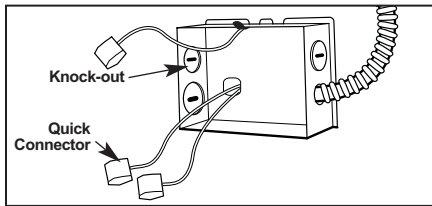

Figure 8
**Step 2.** Remove wiring box cover. Remove the appropriate knock-out(s) to accommodate the type of electrical supply being used (Fig. 8):
**Step 3.** Strip supply wire 3/8" and insert each supply wire into appropriate connector. Connect black fixture wire to hot, white fixture wire to neutral and green fixture wire to ground. (Fig. 8).